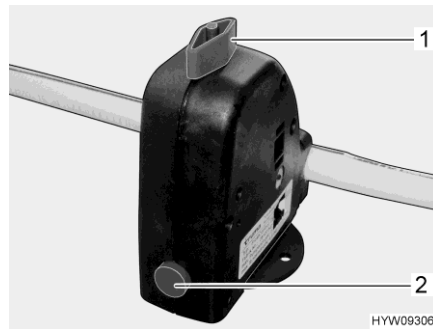

Fig. 83 Safety/drainage valve (boiler)
The boiler is equipped with a safety/drainage valve (Fig. 83). The safety/drainage valve prevents water in the boiler from freezing, when there is frost and the heater is not switched on.
- Close the safety/drainage valve. Turn the knob (Fig. 83,1) perpendicular to the safety/drainage valve and push the push button (Fig. 83,2) in.
- Open the safety/drainage valve. To do this turn the knob (Fig. 83,1) parallel to the safety/drainage valve. The push button (Fig. 83,2) jumps out. The boiler is drained to the outside by the safety/drainage valve.